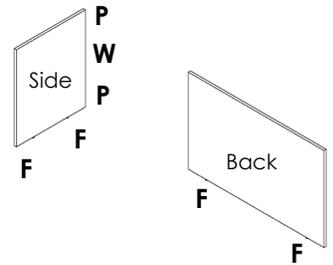

Figure 1: Adding side to back.
Step 2: Attach the side laminate piece of the return to the back laminate piece using the cam pins and wooden dowels (figure 1).